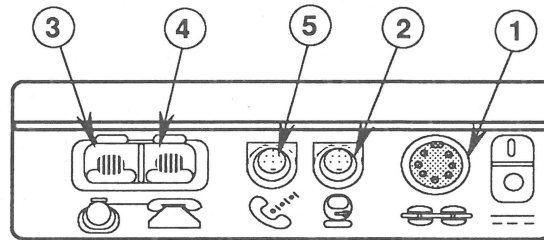

FIGURE 4
- The **power connector** (Figure 4, #1) connects the modem to the external power adapter.
- The **Macintosh connector** (Figure 4, #2) connects the modem to the host computer.
- The **telephone connector** (Figure 4, #3) connects the modem to the telephone line.
Two connectors on the Apple Data Modem 2400 serve auxiliary functions and are not required for operation. The second **telephone connector** (Figure 4, #4) can be used to connect a telephone to the same phone line used by the modem. The **modem connector** (Figure 4, #5) provides an additional serial port that may be used to connect a serial device, such as an ImageWriter® II, to the computer in a daisy-chain fashion.